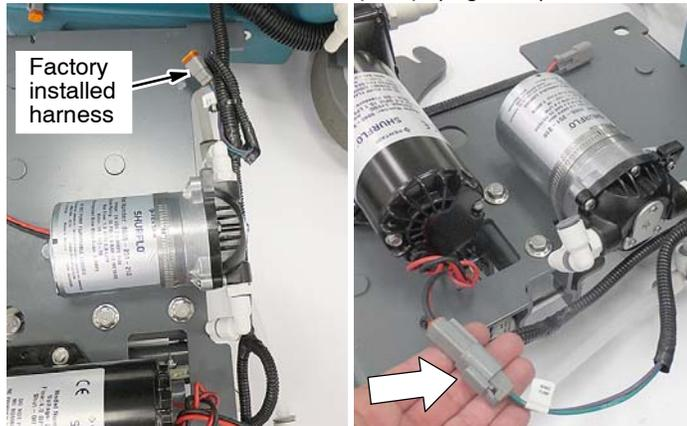

Fig. 7
5. Locate the factory installed spray pump wire harness connector and connect to pump (Figure 7).